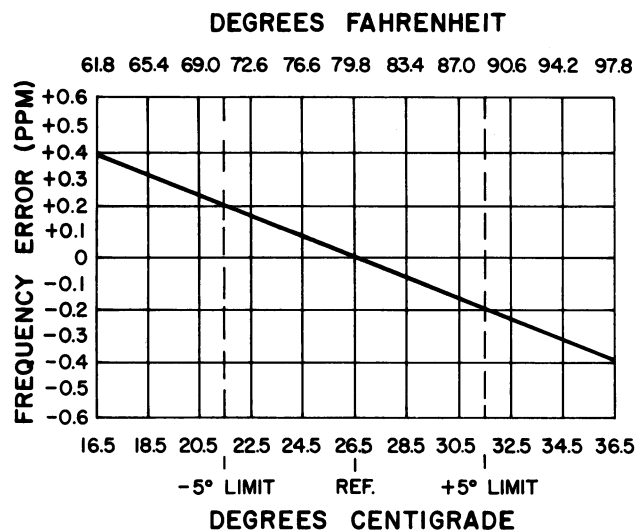

Figure 2 - ICOM Frequency Offset Chart
- b) Maintain the radio at 26.5°C (±10°C) and offset the oscillator, as a function of actual temperature, by the amount shown in Figure 2.
- To hold setting error to  $\pm 0.35$  PPM (which is considered reasonable for 2 PPM ICOMs): Maintain unit at 26.5°C ( $\pm 5^\circ\text{C}$ ) and offset the oscillator, as a function of actual temperature, by the amount shown in Figure 2.